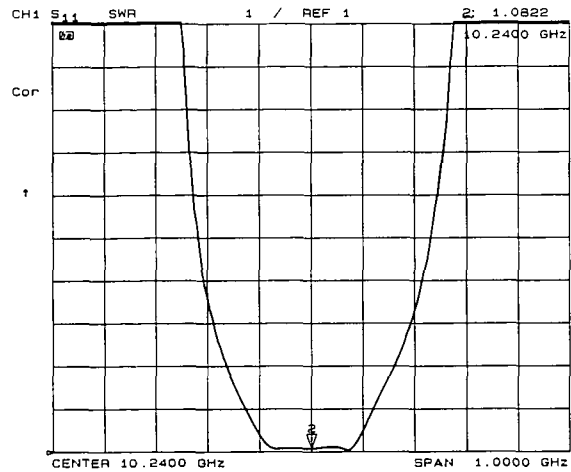

Figure 4-16. Typical SWR Display
**[SWR]** (SWR) reformats a reflection measurement into its equivalent SWR (standing wave ratio) value (Figure 4-16). SWR is equivalent to  $(1+\rho)/(1-\rho)$ , where  $\rho$  is the reflection coefficient. Note that the results are valid only for reflection measurements. If the SWR format is used for measurements of S21 or S12 the results are not valid.